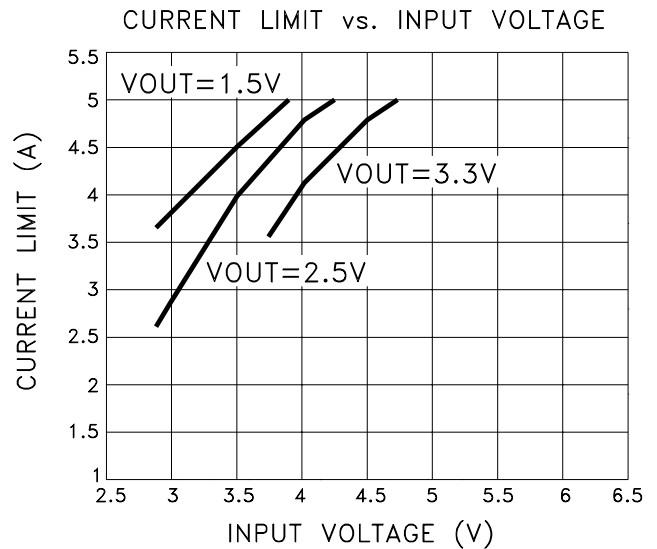

FIGURE 1
- ⑦ Output current limit is dependent upon the values of VIN and VOUT. See Figure 1 and typical performance curves.
- ⑧ Continuous operation at or above absolute maximum ratings may adversely effect the device performance and/or life cycle.
- ⑨ VIN shall be as specified or VIN Min, whichever is greater.
- ⑩ Not applicable when VOUT < VIN Min - dropout voltage maximum.
- ⑪ Pre and post irradiation limits, up to 100Krad TID, are identical unless otherwise specified.
- ⑫ Reference DLA SMD 5962R05220 for electrical specifications for devices purchased as such.
- ⑬ Internal solder reflow temperature is 180°C, do not exceed.
The MSK5921RH current limit function is directly affected by the input and output voltages. Figure 1 illustrates the relationship between VIN and ICL for various output voltages. It is very important for the user to consult the SOA curve when using input voltages which result in current limit conditions beyond 4.5 Amps. When using input voltages which result in current limit above 4.5 Amps, the user must maintain output current within the SOA curve to avoid damage to the device. Note that 5 Amp maximum is due to current carrying capability of the internal wirebonds.